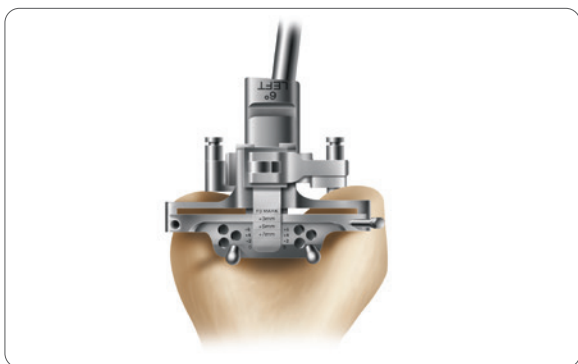

Figure 8
1. Using non-headed pins, pin the distal femoral cutting block to the anterior femur using the holes marked '0'. One adequate distal femoral resection is noted, an additional headed or non-headed pin should be placed obliquely to provide additional stability (**Figure 8**).